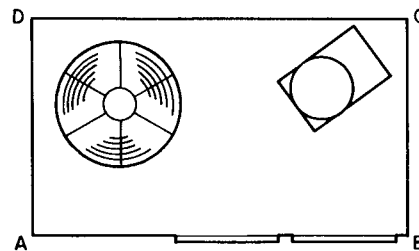
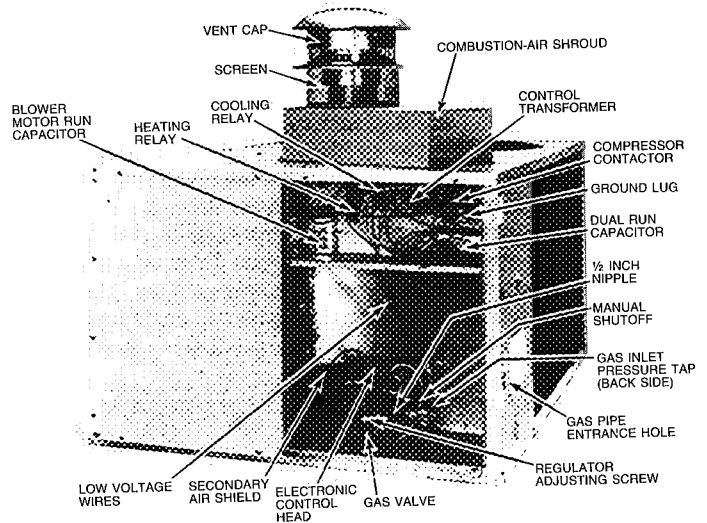

Fig. 4—Dimensions and Clearances (ft.-in.)
Fig. 6—Model 48KLA136—Side View (Partial) with Access Doors Removed
4. Refer to Fig. 4 for locations of gas inlet, electrical inlets, condensate drain, duct connections, and required clearances before setting unit in place.
When installing a unit on a rooftop, be sure roof will support the additional weight. Refer to Fig. 4 to obtain total weight and corner weight information.
CLEARANCES—Required minimum operating and service clearances are shown in Fig. 4 for providing adequate combustion, ventilation and condenser air.
Models 48KHA,KLA dispose of condensate water through a 3/4-in. MPT drain fitting. See Fig. 4 for location.
VENTING—The vent cap, combustion air shroud and flue assembly are shipped in either the blower or control compartment. Vent screen is taped to blower housing. Remove access doors to locate assemblies. See Fig. 4 for door locations.
Step 2—Make Gas Piping Connections—A manual shutoff valve is shipped loose in the burner compartment or blower compartment. Connect one end of a field-supplied $\frac{1}{2}$ -in. straight nipple to the gas valve inlet. Connect the other end of the nipple to the manual shutoff valve as shown in Fig. 6. The gas supply pipe enters unit through access hole provided. See Fig. 4 for location. The gas connection to unit is made to the $\frac{1}{2}$ -in. FPT gas inlet on manual shutoff. See Fig. 6 for inlet location.
Step 3—Make Duct Connections—Model 48KHA,KLA has duct flanges on the supply- and return-air openings on side of unit. See Fig. 4 for connection sizes and locations.
The field-supplied disconnect switch box may be mounted on unit over the high-voltage inlet hole in control corner panel. See Fig. 4.
2. Run high-voltage leads into unit control box and connect to contactor. See unit wiring label and Fig. 6 and 8.
For operation on 208 volts, disconnect orange transformer-primary lead from contactor. See unit wiring label and Fig. 6. Remove tape and cover from terminal on end of red transformer-primary lead. Save cover. Connect red lead to contactor terminal from which orange lead was disconnected.
A grommited, low-voltage inlet hole is located in the panel adjacent to control access panel. See Fig. 4. Run low-voltage leads from thermostat, through inlet hole and to low-voltage flagged pigtail leads that run through a hole in bottom of unit control box. See Fig. 6. Connect thermostat leads to pigtail leads as shown in Fig. 8